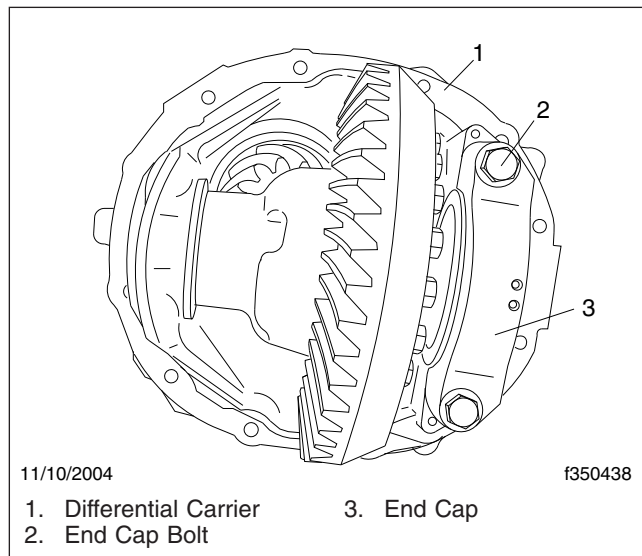

Fig. 5, Carrier End Caps
16. Install the end caps on the sides of the forward differential carrier into the corresponding slots in the axle housing as follows. See Fig. 5.